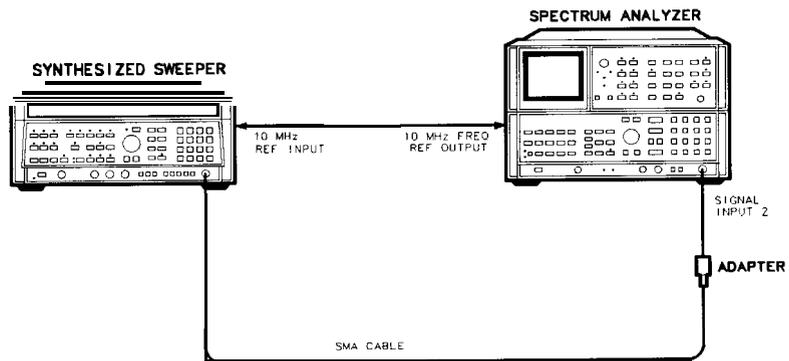

Figure 2-3. Frequency Span Accuracy Test Setup
1. Connect equipment as shown in Figure 2-3.